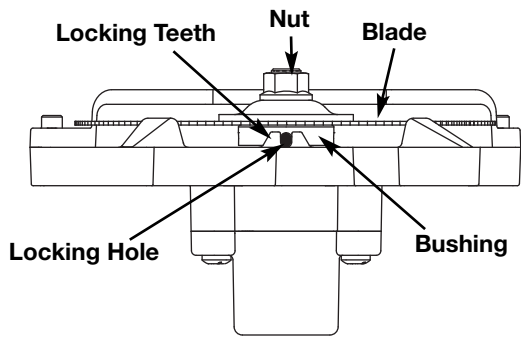

Fig. 10
3. Turn the unit so that you are looking at the end of it (Fig. 10).
4. Rotate the nut until one of the locking holes on the bushing beneath the blade aligns between the locking teeth (Fig. 10).
5. Insert the long end of the provided Allen wrench between the Locking Teeth and into the Locking Hole (Fig. 10).
3. Insert the long end of the provided Allen wrench between the Locking Teeth and into the Locking Hole in the bushing (Fig. 10).